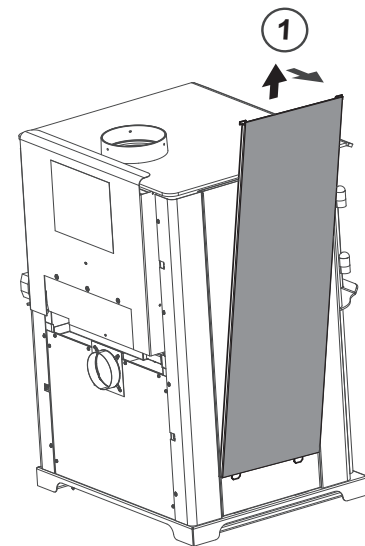

Figure 24.3
1. Remove solid panel from side by lifting up and pulling away from appliance (use a flat tool to pry from bottom if needed) (**Figure 24.3**).
2. Remove tile frame from side by lifting up and pulling away from appliance. **Figure 24.3 reference solid side panel removal.**